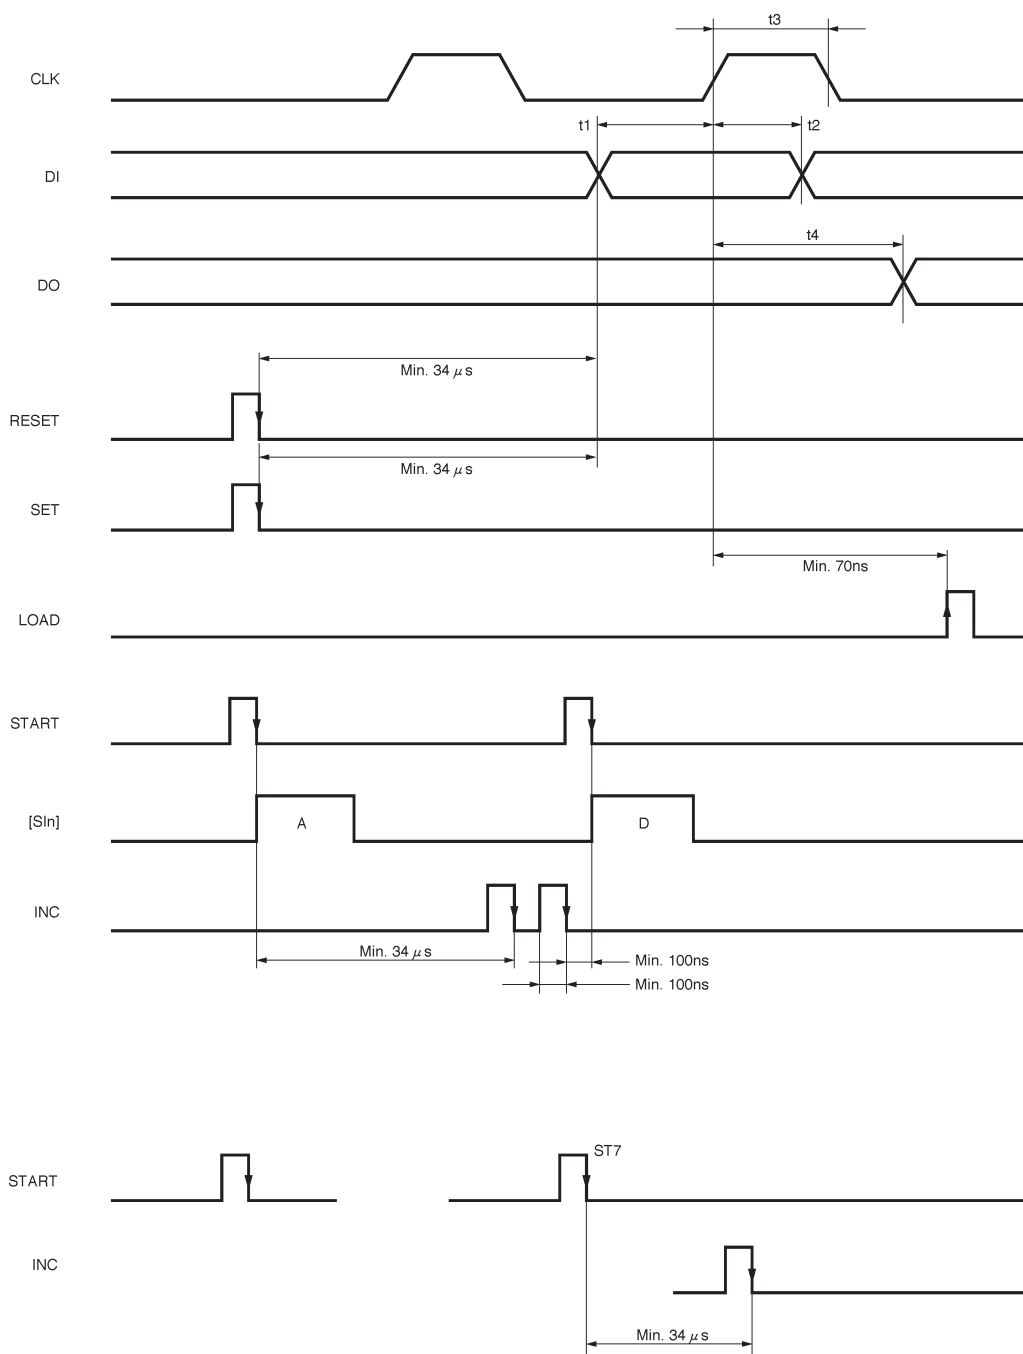

Fig. 2
- INC** :Supports the increment function from level 1 to level 6. One level is incremented for one pulse. (See Fig. 2)
- RESET** :Sets all data at "LOW". Clears data when printing is resumed after a pause. (See Fig. 2)
- For two-part split printing, enter INC after 34 μ seconds of START7. (See Fig. 2)